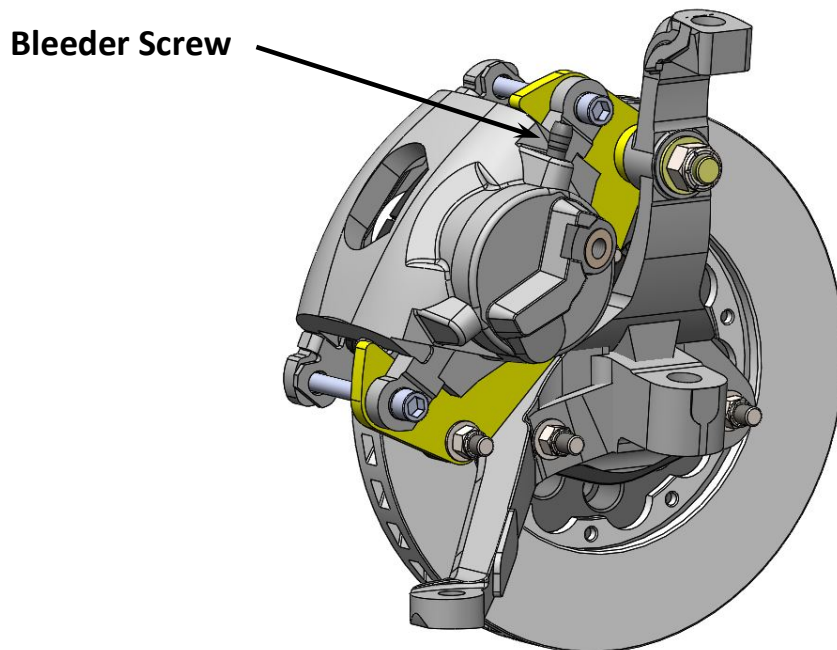

Figure 7 – Bleeder Screw Pointing Upward
- Mount the caliper to the caliper mounting bracket. With the pads installed in the caliper, slide the caliper over the rotor and line up the mounting ears of the caliper with the holes in the caliper mounting bracket. Tighten and torque the bolts to 80 ft/lbs. **NOTE:** When installing the calipers, make sure the brake bleeders are pointing upward. See Figure 7 on the next page for reference.